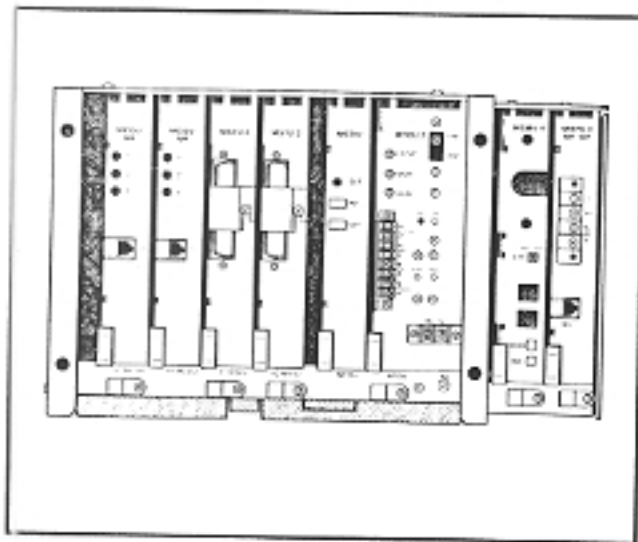

FIGURE 14—KBXU WITH PCBs
06.51 If the system is to be equipped with Station Message Detail Recording (SMDR), an MSMU* must be installed in the correct location per Figure 14.
conventional telephones or OPX extensions, an MOPU PCB is required. The MOPU PCB mounts in the KBXU per Figure 14 and serves stations 20 and 21. A maximum of one MPOU PCB is permitted in a **Strata VI** system.